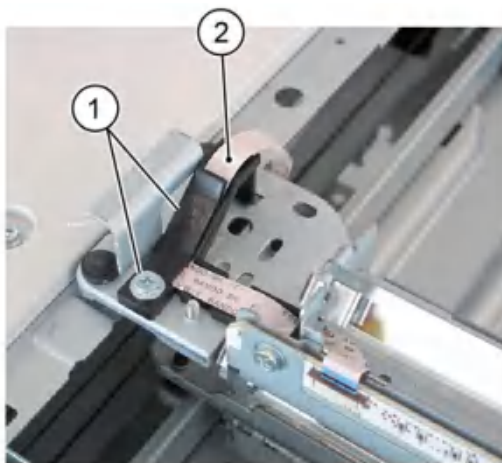

Figure 3 Cable assembly disconnection (1)
6. Disconnect the FFC LED cable assembly from the full rate carriage, Figure 3:
- a. Remove the screw, then remove the plate (1).
- b. Disconnect the FFC LED cable assembly (2).